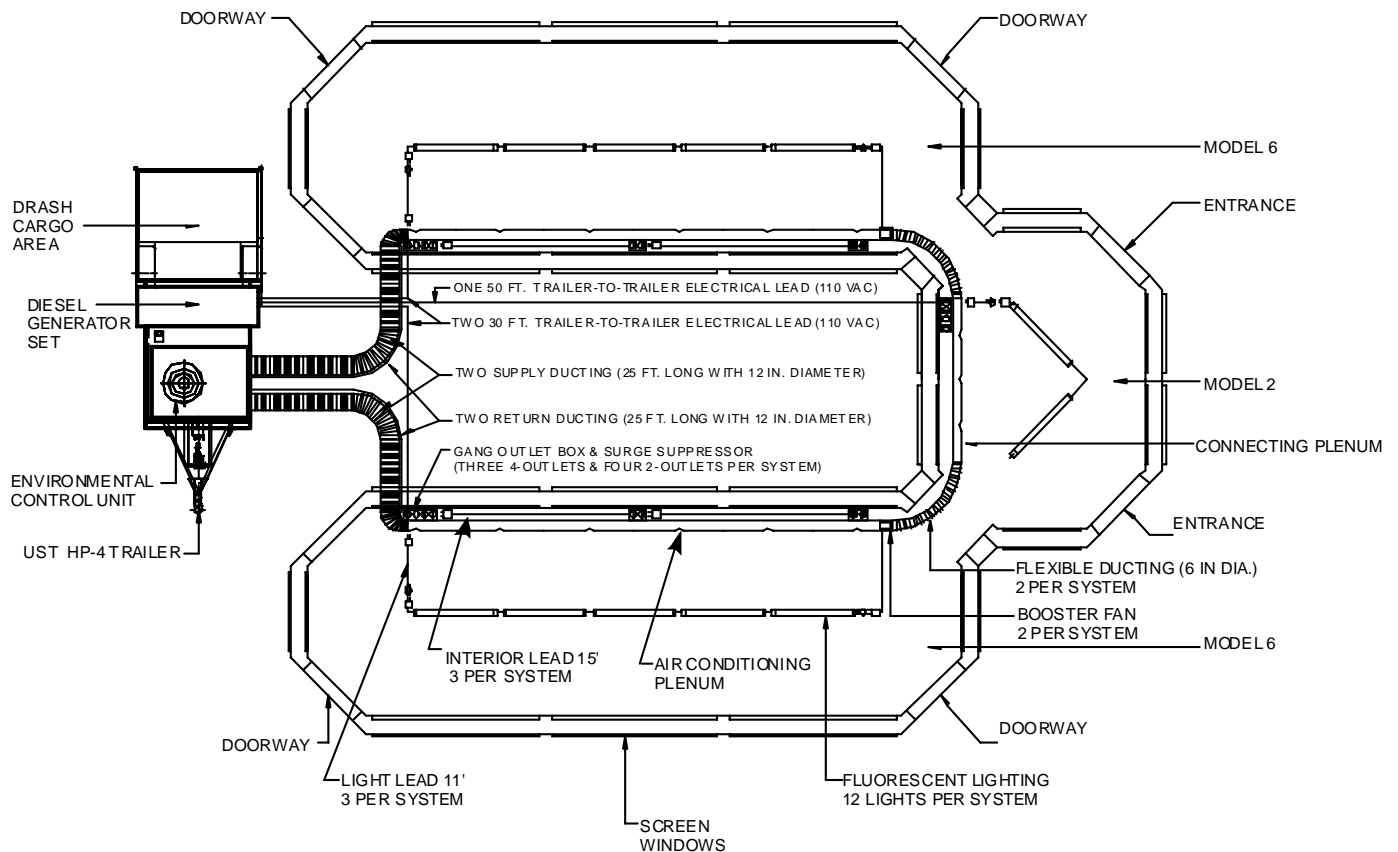

Figure 2-14 - Electrical & Environmental Layout for DRASH Complex
2. Unpack both the 50 foot (1) and 30 foot (2) trailer leads.
5. Extend the 50 foot lead to reach the electrical port of the shelter at the base of the "U" configuration. (Refer to Figure 2-14, page 2-4.)